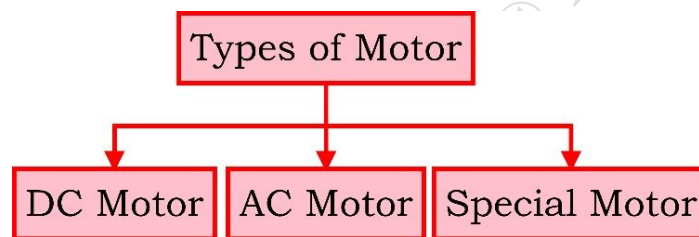

Fig. 3.41 Classification of motors
Based on operating power, the motor can be classified as alternating current (AC) or direct current (DC). Figure 3.41 illustrates the flowchart having the classification of motors.